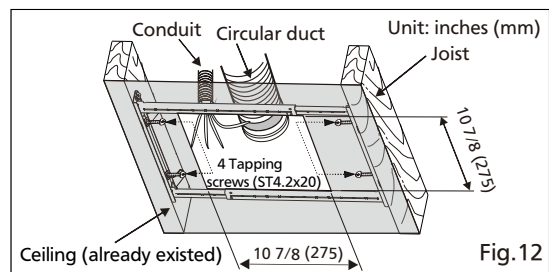

Fig.12
1. Remove the existing fan and cut ceiling opening. Secure the Flex-Z Fast™ bracket to joists by drilling 4 tapping screws (ST4.2x20) which have been fixed on it. Existing ductwork and wiring left in place. (Fig.12)